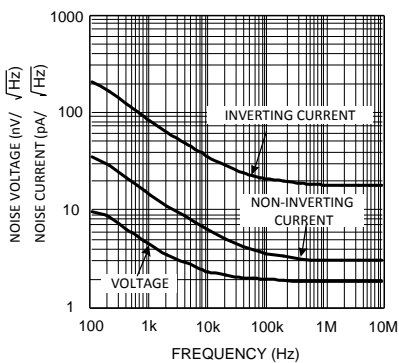

Figure 17. Noise
2. Ultra-low distortion approaching -87 dBc at the lower frequencies and exceptional noise performance (see Figure 9 and Figure 17).